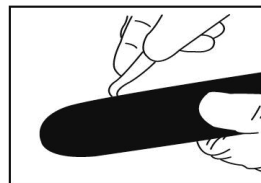

Fig. 7A
- Keep the bar groove and lubrication hole clean using the bar groove cleaner supplied optional (Fig. 7A).